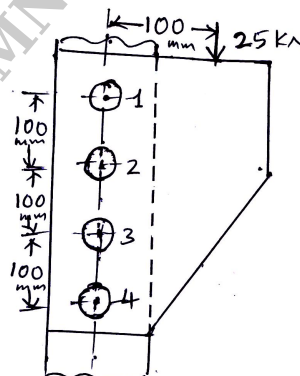

Fig.Q7(b)
- b. A bracket attached to a vertical column by means of four identical rivets, is subjected to an eccentric force of 25 kN as shown in Fig.Q7(b). Determine the diameter of rivets, if the permissible shear stress is 60 N/mm².